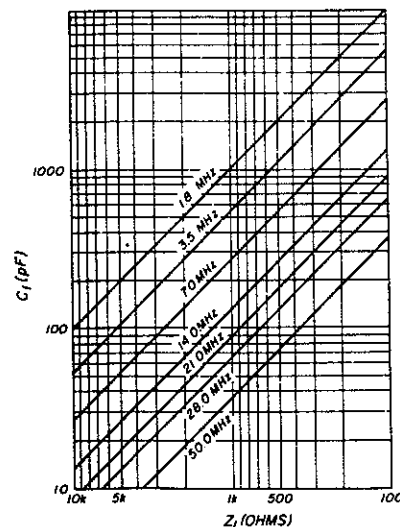

fig. 5. Plot of the tuning capacitance (C_1) vs. plate load impedance ($Q = 12$).
Wiring within the rf-tight box can couple to rf energy because of the storing field within the box. Any lead in the box can pick up fundamental and harmonic energy and feed it outside the enclosure (fig. 5). On the other hand, the lead can pick up rf energy from an outside source (your exciter, for example) and leak it into the box causing amplifier instability. The solution for this problem is to bypass or filter all internal power and control leads at each end, dress them close to the chassis, and keep them physically remote from areas of high rf energy.
fig. 5. Tests of lead-filtering techniques (A). A signal generator having an output of 12,000 μV was placed in a metal box and rf leakage via various paths was measured. Very complex shielding was required to remove the last vestige of signal from the power lead. A combination of rf choke and capacitors, such as tests 8 or 9, does the job in adequate fashion. A very effective filter (not shown here), consists of a 0.001- μF feedthrough capacitor with a series rf choke. Both ends of the choke are additionally bypassed with a 0.01- μF disc capacitor. Energy can be conducted from one area to another as this test shows. Lead-through hole in partition (B) conducts energy from one compartment to the other. Proper bypassing (C) attenuates leakage. (Courtesy Radio Publications, Inc.)